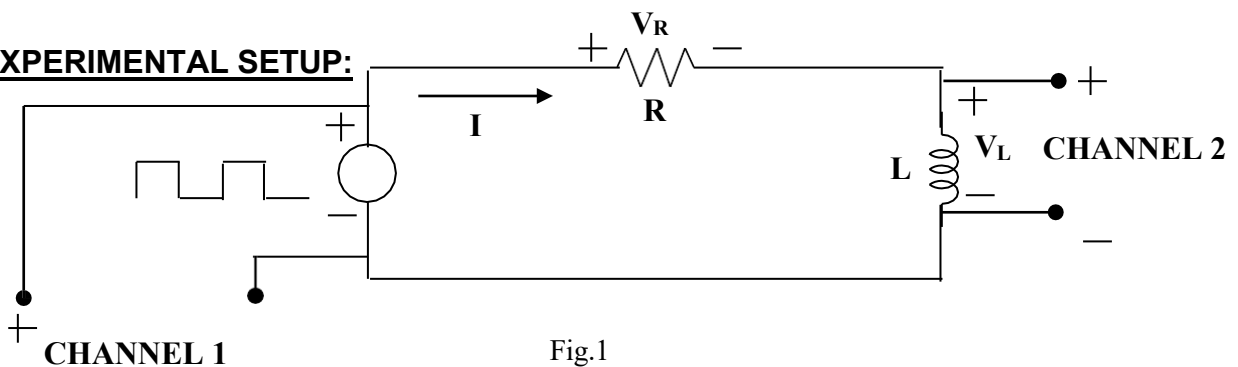

Fig.1
6. Setup the circuit as shown in figure 1.